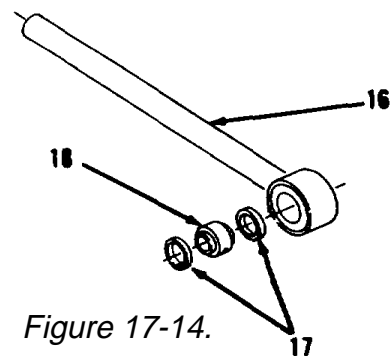

Figure 17-14.
10. Using suitable bearing driver, remove two rings (17) and bearing (18) from eye of rod assembly (16, Figure 17-14). Place rod assembly (16) in soft jawed vise and discard bearing (18).
1. Position rod assembly (16, Figure 17-14) in soft jawed vise.
2. Using suitable driver, install ring (17). Ring (17) is to be installed to a depth of 0.29 inch from the outer surface of rod assembly (16).
3. Using bearing driver, install new bearing (18) in rod assembly (16).